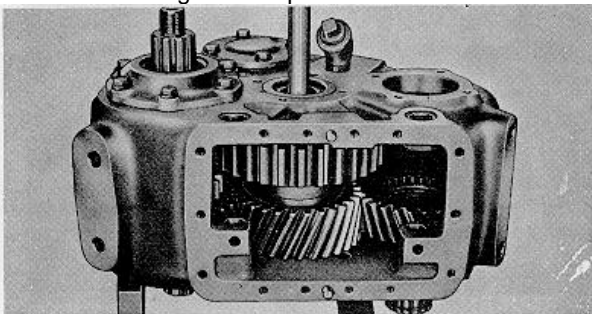

Fig. 12.
- of idler shaft; then press shaft out through rear of case (Fig. 12).